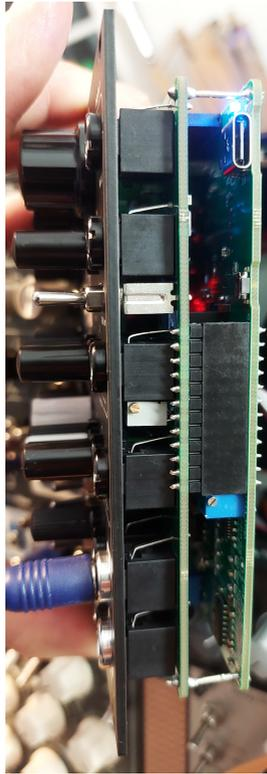

Figure 5.3: The Y-Gain trimmer is the one directly under the front-plate on the right side of the module.
To balance the X and Y channels in their overall volume it is necessary to adjust the “Y Gain” trimmer on the right side of the upper PCB. See Figure 5.3.
5. With a small slotted screwdriver, turn the “Y Gain” trimmer to adjust the decay of the red line. (See Figure 5.3) Turning CCW increases the decay, turning CW decreases the decay.